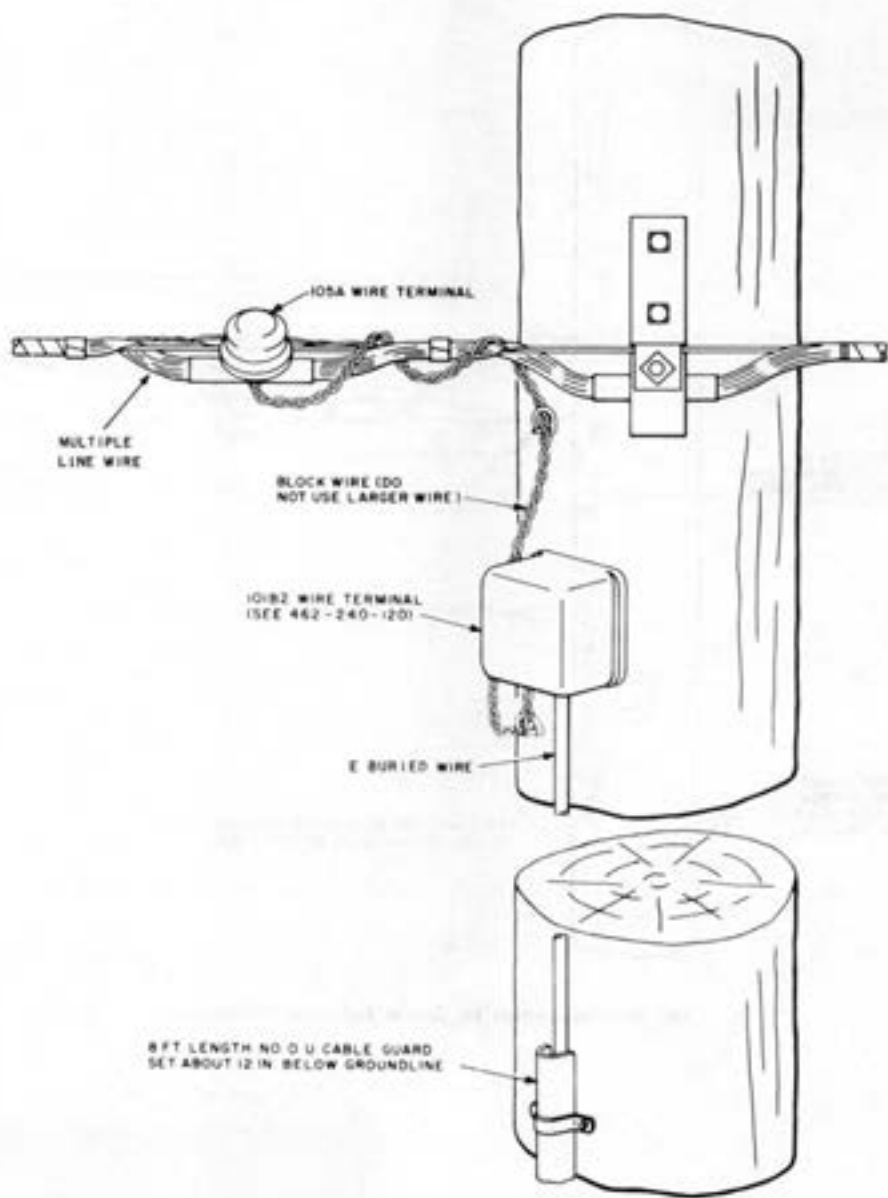

Fig. 29—E Buried Wire Terminated to Multiple Line Wire
8.02 E buried wire can be used with or fed from multiple wire where the multiple wire is exposed to power contact and fuseless station protection is used. E buried wire should be brought up a pole and terminated in a 101B2 wire terminal. The metallic shield should be cut back and taped as shown in Fig. 26. Connect the conductors of E buried wire to the conductors of the multiple wire with block wire. At the groundline the wire should be covered with an 8-foot length of No. 0 U cable guard. Fig. 29 shows a typical example of E buried wire being connected to a 105-type wire terminal.